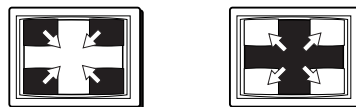

Figure 3-34 — Plus wipe effects
- A **plus wipe** causes the preview image to appear to unroll over the program image in one of two transitions (figure 3-34):